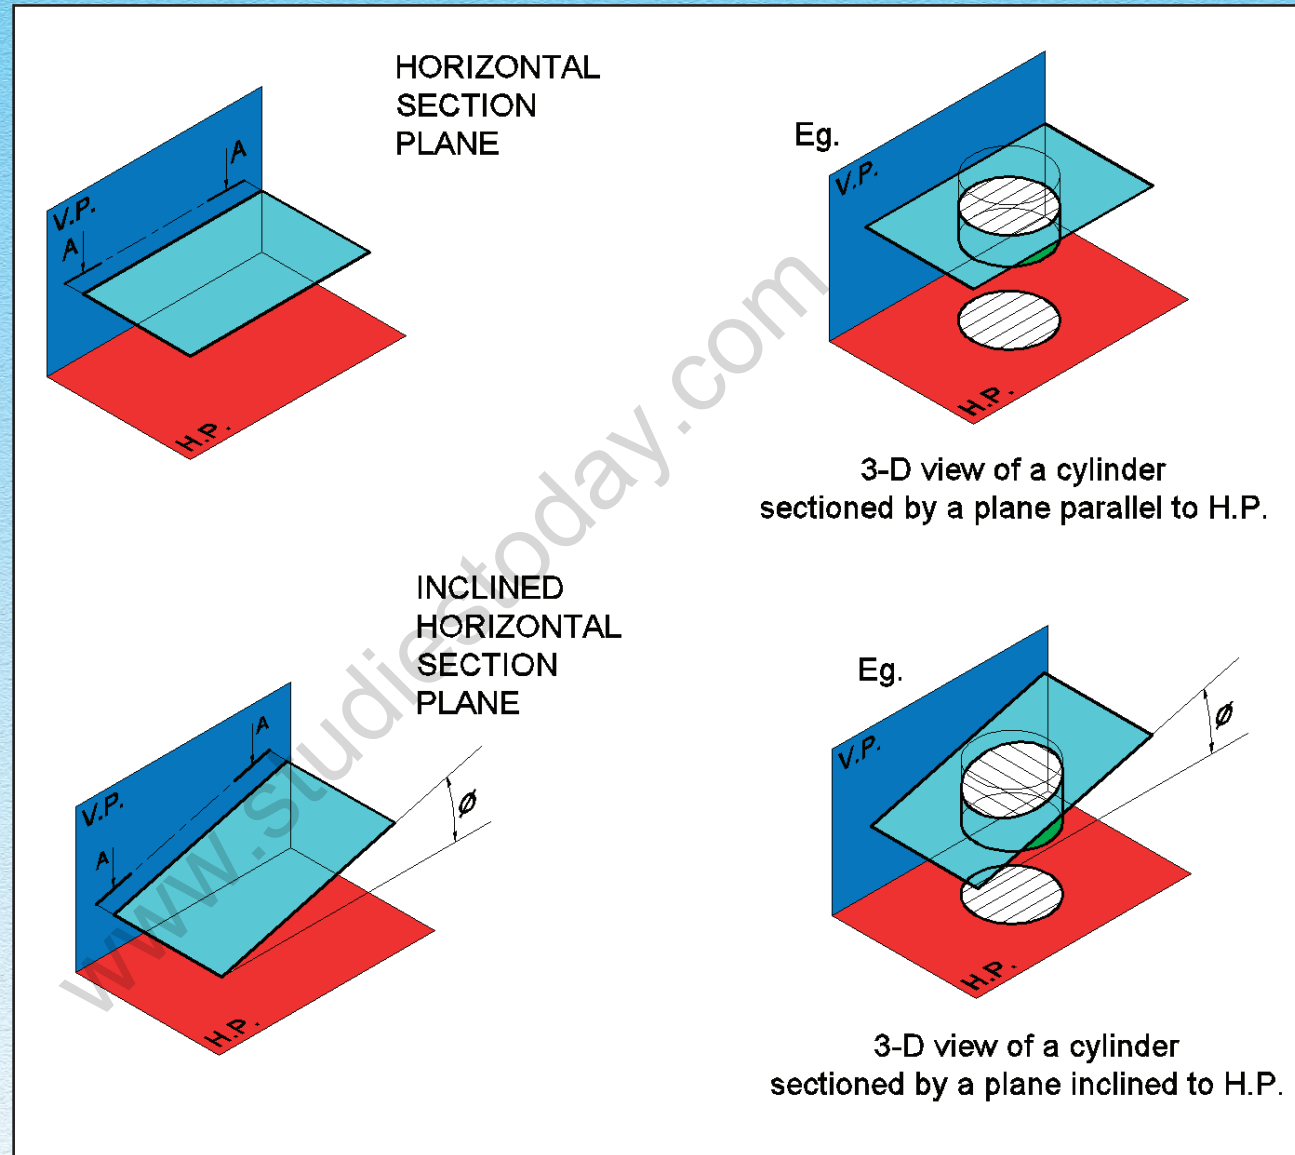

Fig. 5.15
Similarly, here, the section is seen in the Top View. That is, the section plane is horizontal/ inclined to the horizontal i.e. perpendicular to VP and parallel to HP or it is inclined to the horizontal plane (HP) as shown in Fig. 5.15.